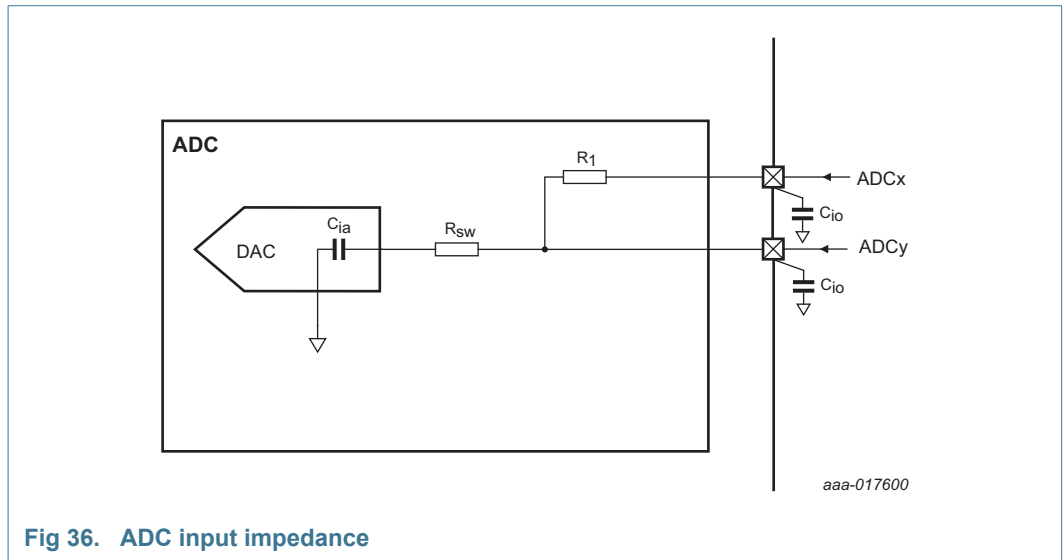

Fig 36. ADC input impedance
- [10] Input impedance Z_i is inversely proportional to the sampling frequency and the total input capacity including C_{ia} and C_{io} : $Z_i \propto 1 / (f_s \times C_i)$. See Table 19 for C_{io} . See Figure 36.
- (1) Example of an actual transfer curve.
- (2) The ideal transfer curve.
- (3) Differential linearity error (E_D).
- (4) Integral non-linearity ($E_{L(adj)}$).
- (5) Center of a step of the actual transfer curve.
Figure 36 shows the ADC input impedance. In this figure: